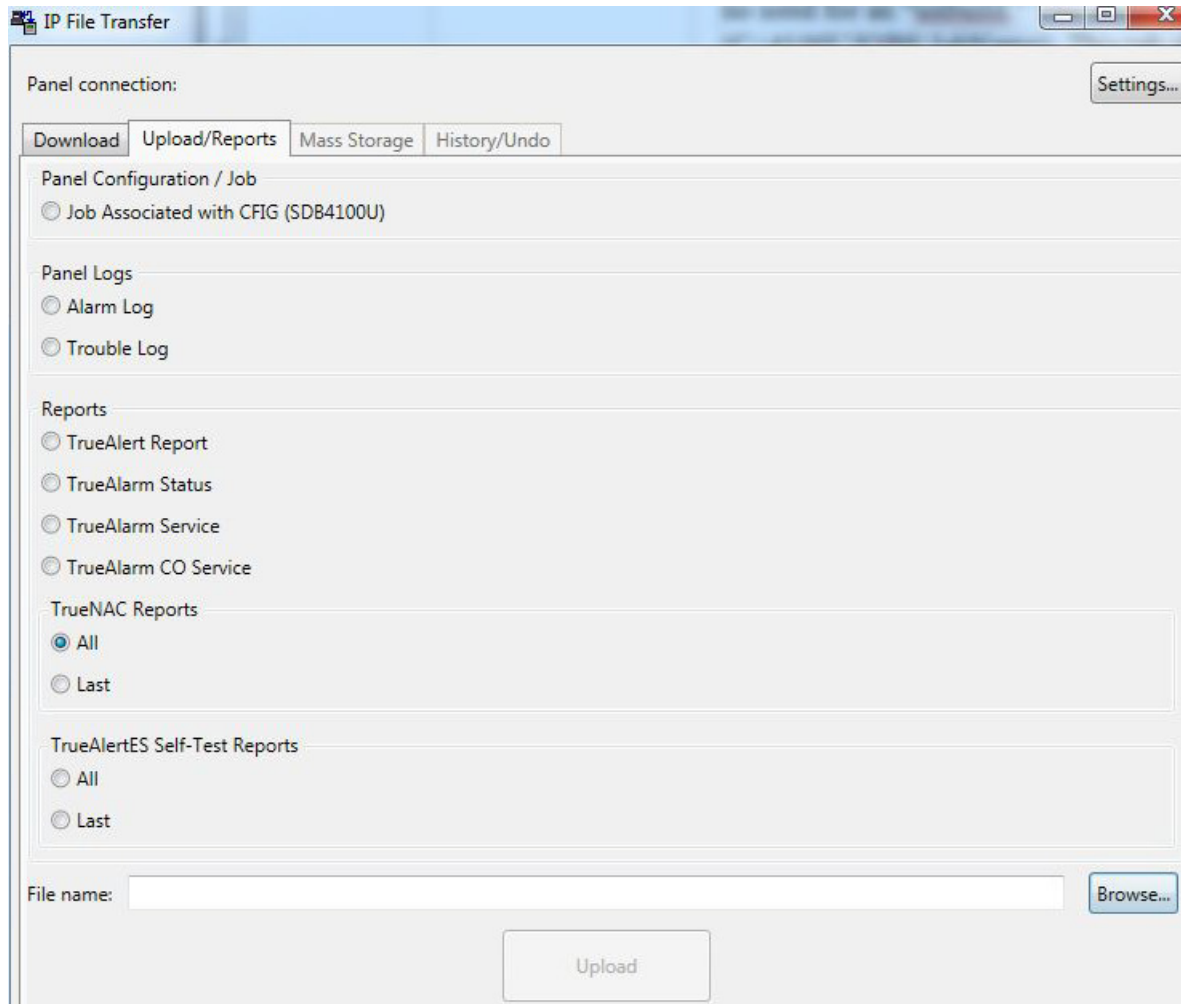

Figure 10-7.Upload/Reports Tab
1. Click on the Upload/Reports tab near the top of the IP File Transfer window. See Figure 10-7.